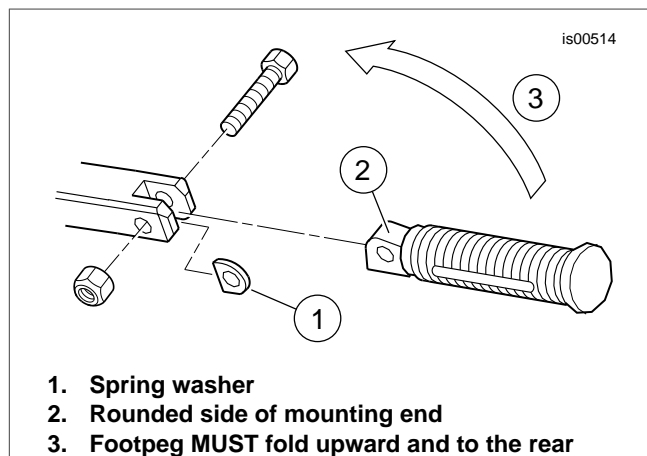

Figure 4. Proper Footpeg Installation
See Figure 4. The spring washer (1) goes between the jaws of the footpeg support bracket along with the mounting end of the footpeg.